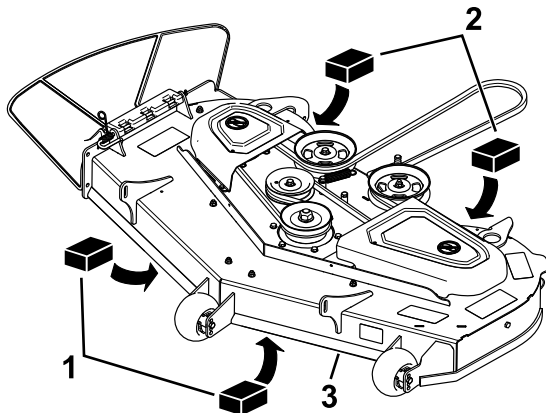

Figure 75
4. Place 2 blocks, each having a thickness of 6.6 cm (2-5/8 inches), under each side of the front edge of the deck but not under the anti-scalp roller brackets (Figure 75).
5. Place 2 blocks, each having a thickness of 7.3 cm (2-7/8 inches), under the rear edge of the cutting deck skirt, 1 on each side of the cutting deck (Figure 75).